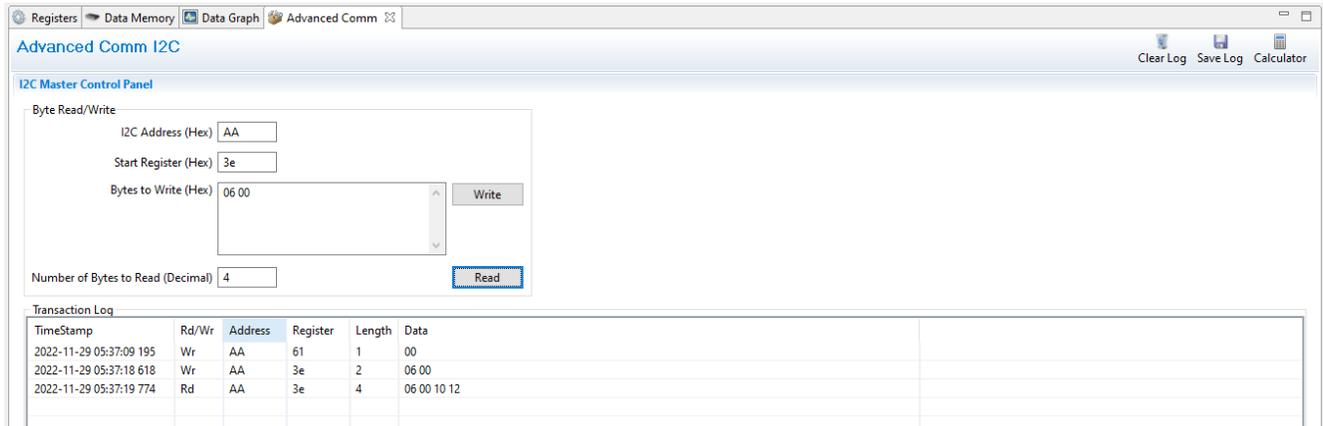

Figure 1-11. Advanced Comm I²C Screen
Press the **Advanced Comm I²C** button to select the **Advanced Comm I²C** window. This tool provides access to parameters using I²C and Manufacturing Access commands. See Figure 1-11 . The transaction log screen shows the history of sent commands.
- Write to mac address 0x3e Command 0x06 0x00 (see Figure 1-11).
- Write to mac address 0x3e command 0x21 0x00 (see Figure 1-11).